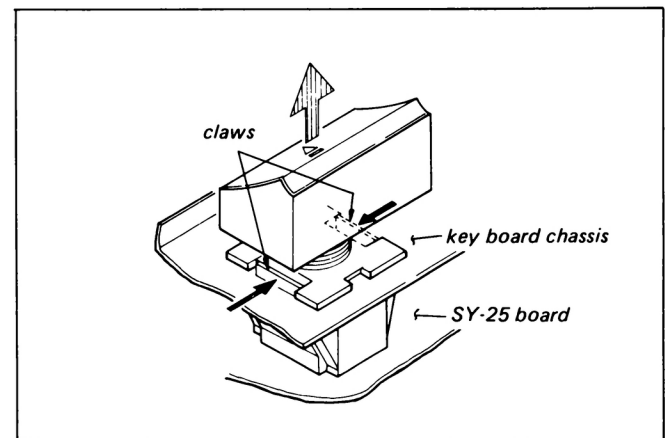

Fig. 5-6. Replacement of function button switch
2. Pull off the function button switch in the direction indicated by the arrow while pushing the two claws on each side of the switch in the direction shown by the arrow as shown in Fig. 5-6.